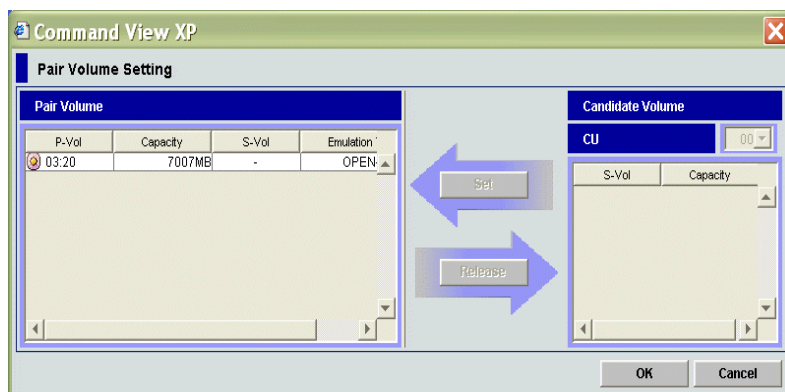
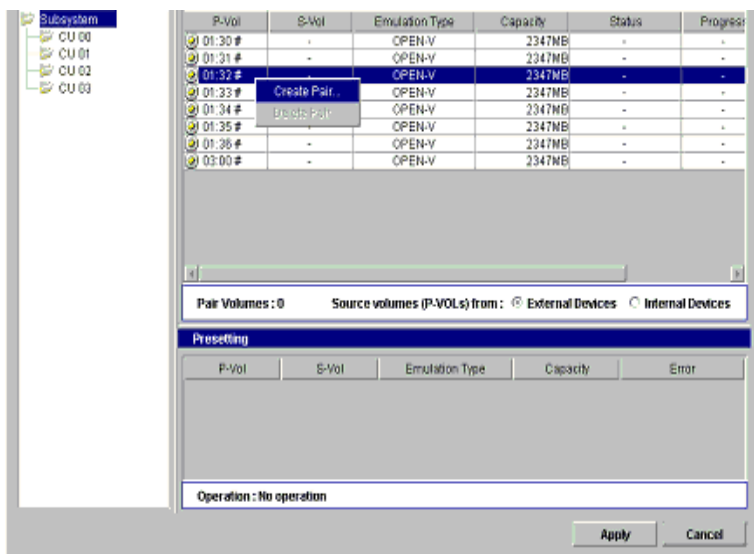

Figure 381 Pair Volume Setting pane
Figure 383 Flex Copy pane (Create Pair command)
4. In the **P-VOL** column of the Pair List, select one or more local disk array LUs that are not already set as a copy pair, right-click, and select **Create Pair** (see Figure 383 on page 748). The Pair Volume Setting pane appears (see Figure 381 on page 746).